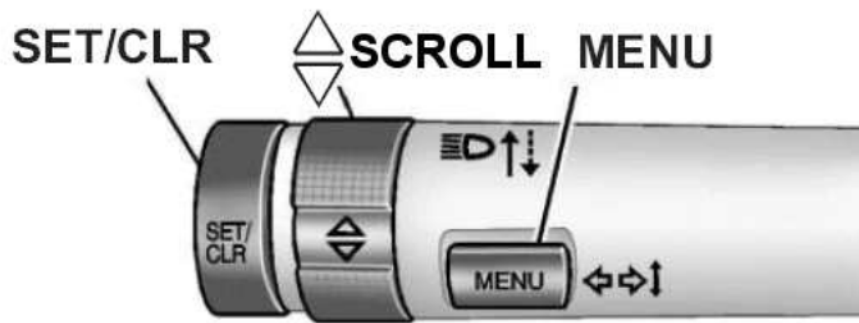

Fig. 2: Identifying DIC Controls (Turn Signal Lever)
2. Press the DIC MENU button on the turn signal lever to enter the Vehicle Information Menu. Use the thumbwheel to scroll through the menu items until you reach REMAINING OIL LIFE. See Fig. 2.